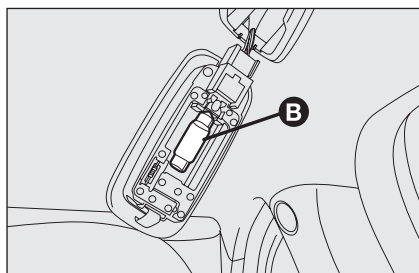

fig. 41
- ☐ replace the bulb **B**-fig. 41 releasing it from the side contacts making sure that the new bulb is correctly clamped between the contacts.